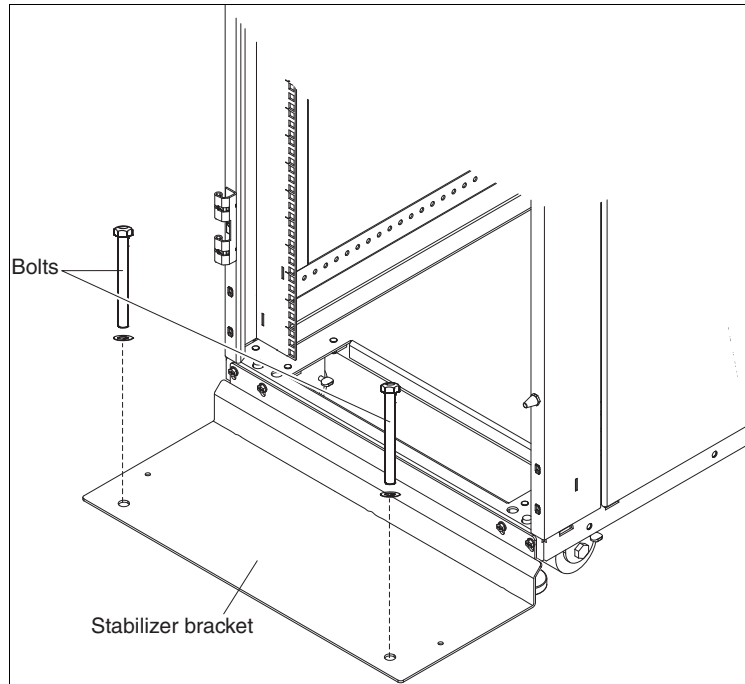

Figure 5-9 Rack with stabilizer bracket attached that is bolted to the floor
- ▶ A front stabilizer bracket, which can be used to secure the rack to the floor, as shown in Figure 5-9.